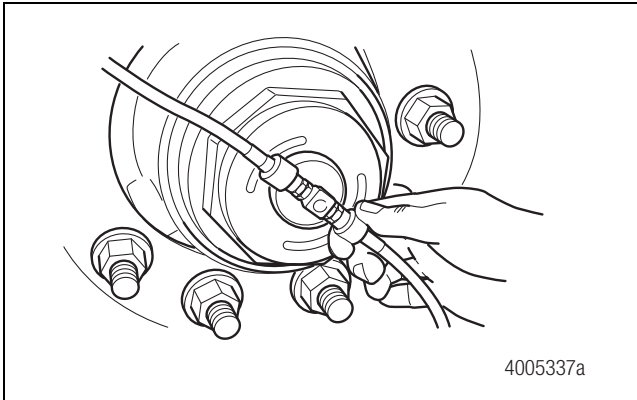
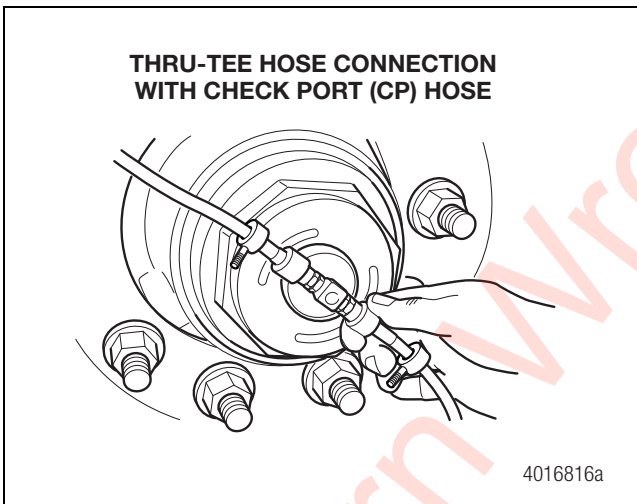

Figure 3.25
Figure 3.26
8. When the test-tire pressure is correct, hand-tighten the remaining tire hoses to the thru-tees. Do not use pliers. The tire inflation system will inflate all of the tires to the specified pressure. At this point, the system is fully assembled. Figure 3.25 and Figure 3.26.